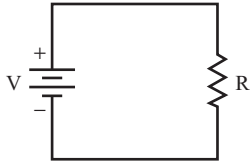

FIGURE 1.1
- A. Draw arrows to show the current flow in Figure 1.1. The symbol for the battery shows its polarity.
- C. Voltage causes current to flow if there is a complete circuit present, as shown in Figure 1.1.